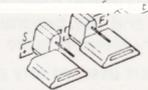

Figure 2-2 CPS +S and EF Jumper positioning
2. a. Verify that the CPS Card jumpers are set as shown in Figure 2-2.
- a. Verify the CPS Card jumpers are set as shown in Figure 2-2.